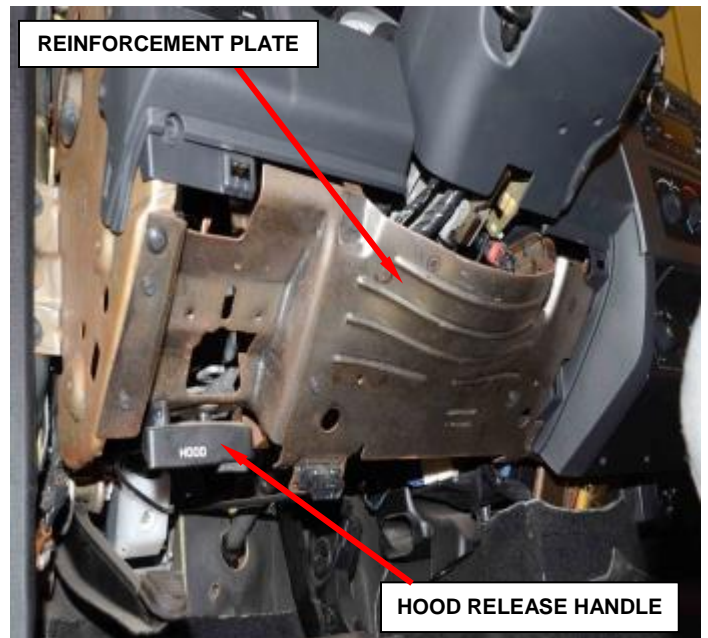

Figure 86 – Steering Column Reinforcement Plate
5. Remove the steering column opening cover and disconnect the parking brake linkage (Figure 86).
6. Remove the steering column reinforcement plate (Figure 86).
7. Remove the two hood release handle screws and position the handle to the side (Figure 86).